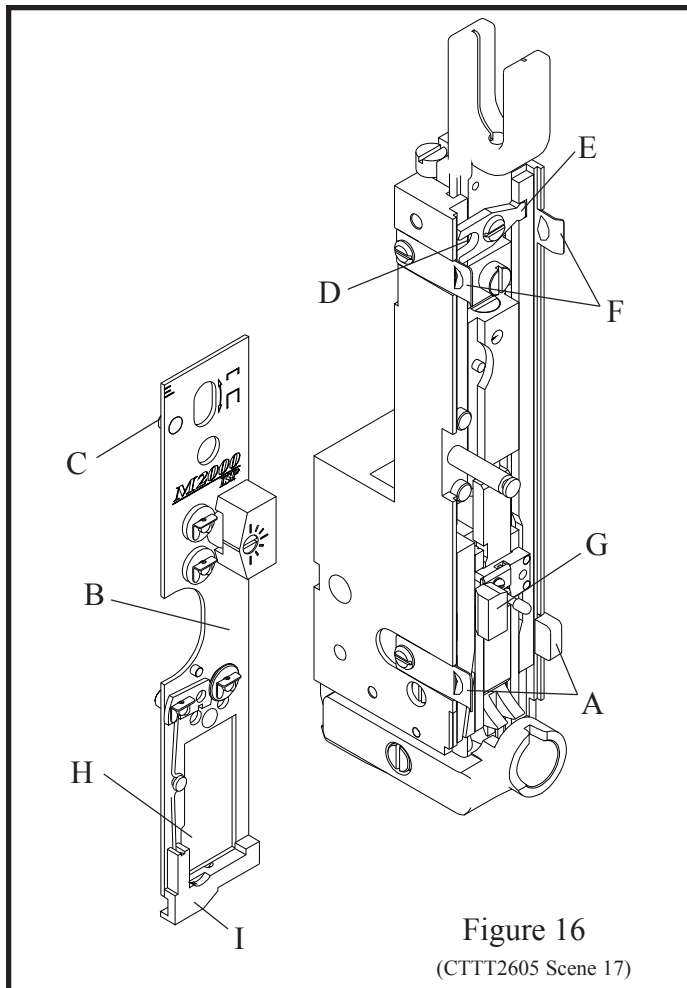

Figure 16
7. Loosen the two face plate retaining clips (Index A, Figure 16) and rotate them downward.